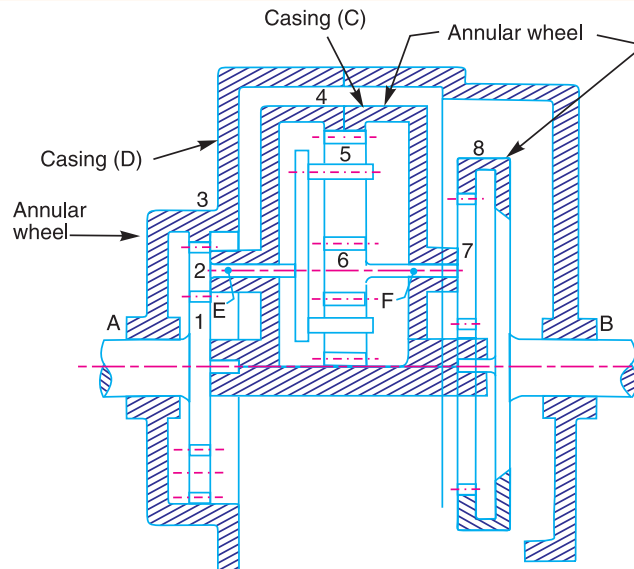

Fig. 13.19
**Example 13.15.** Fig. 13.19 shows a compound epicyclic gear in which the casing C contains an epicyclic train and this casing is inside the larger casing D.
First of all, let us consider the train of wheel 1 (on A), wheel 2 (on E), annular wheel 3 (on D) and the arm i.e. casing C. Since the pitch circle diameters of wheels are proportional to the number of teeth, therefore from the geometry of Fig. 13.19,